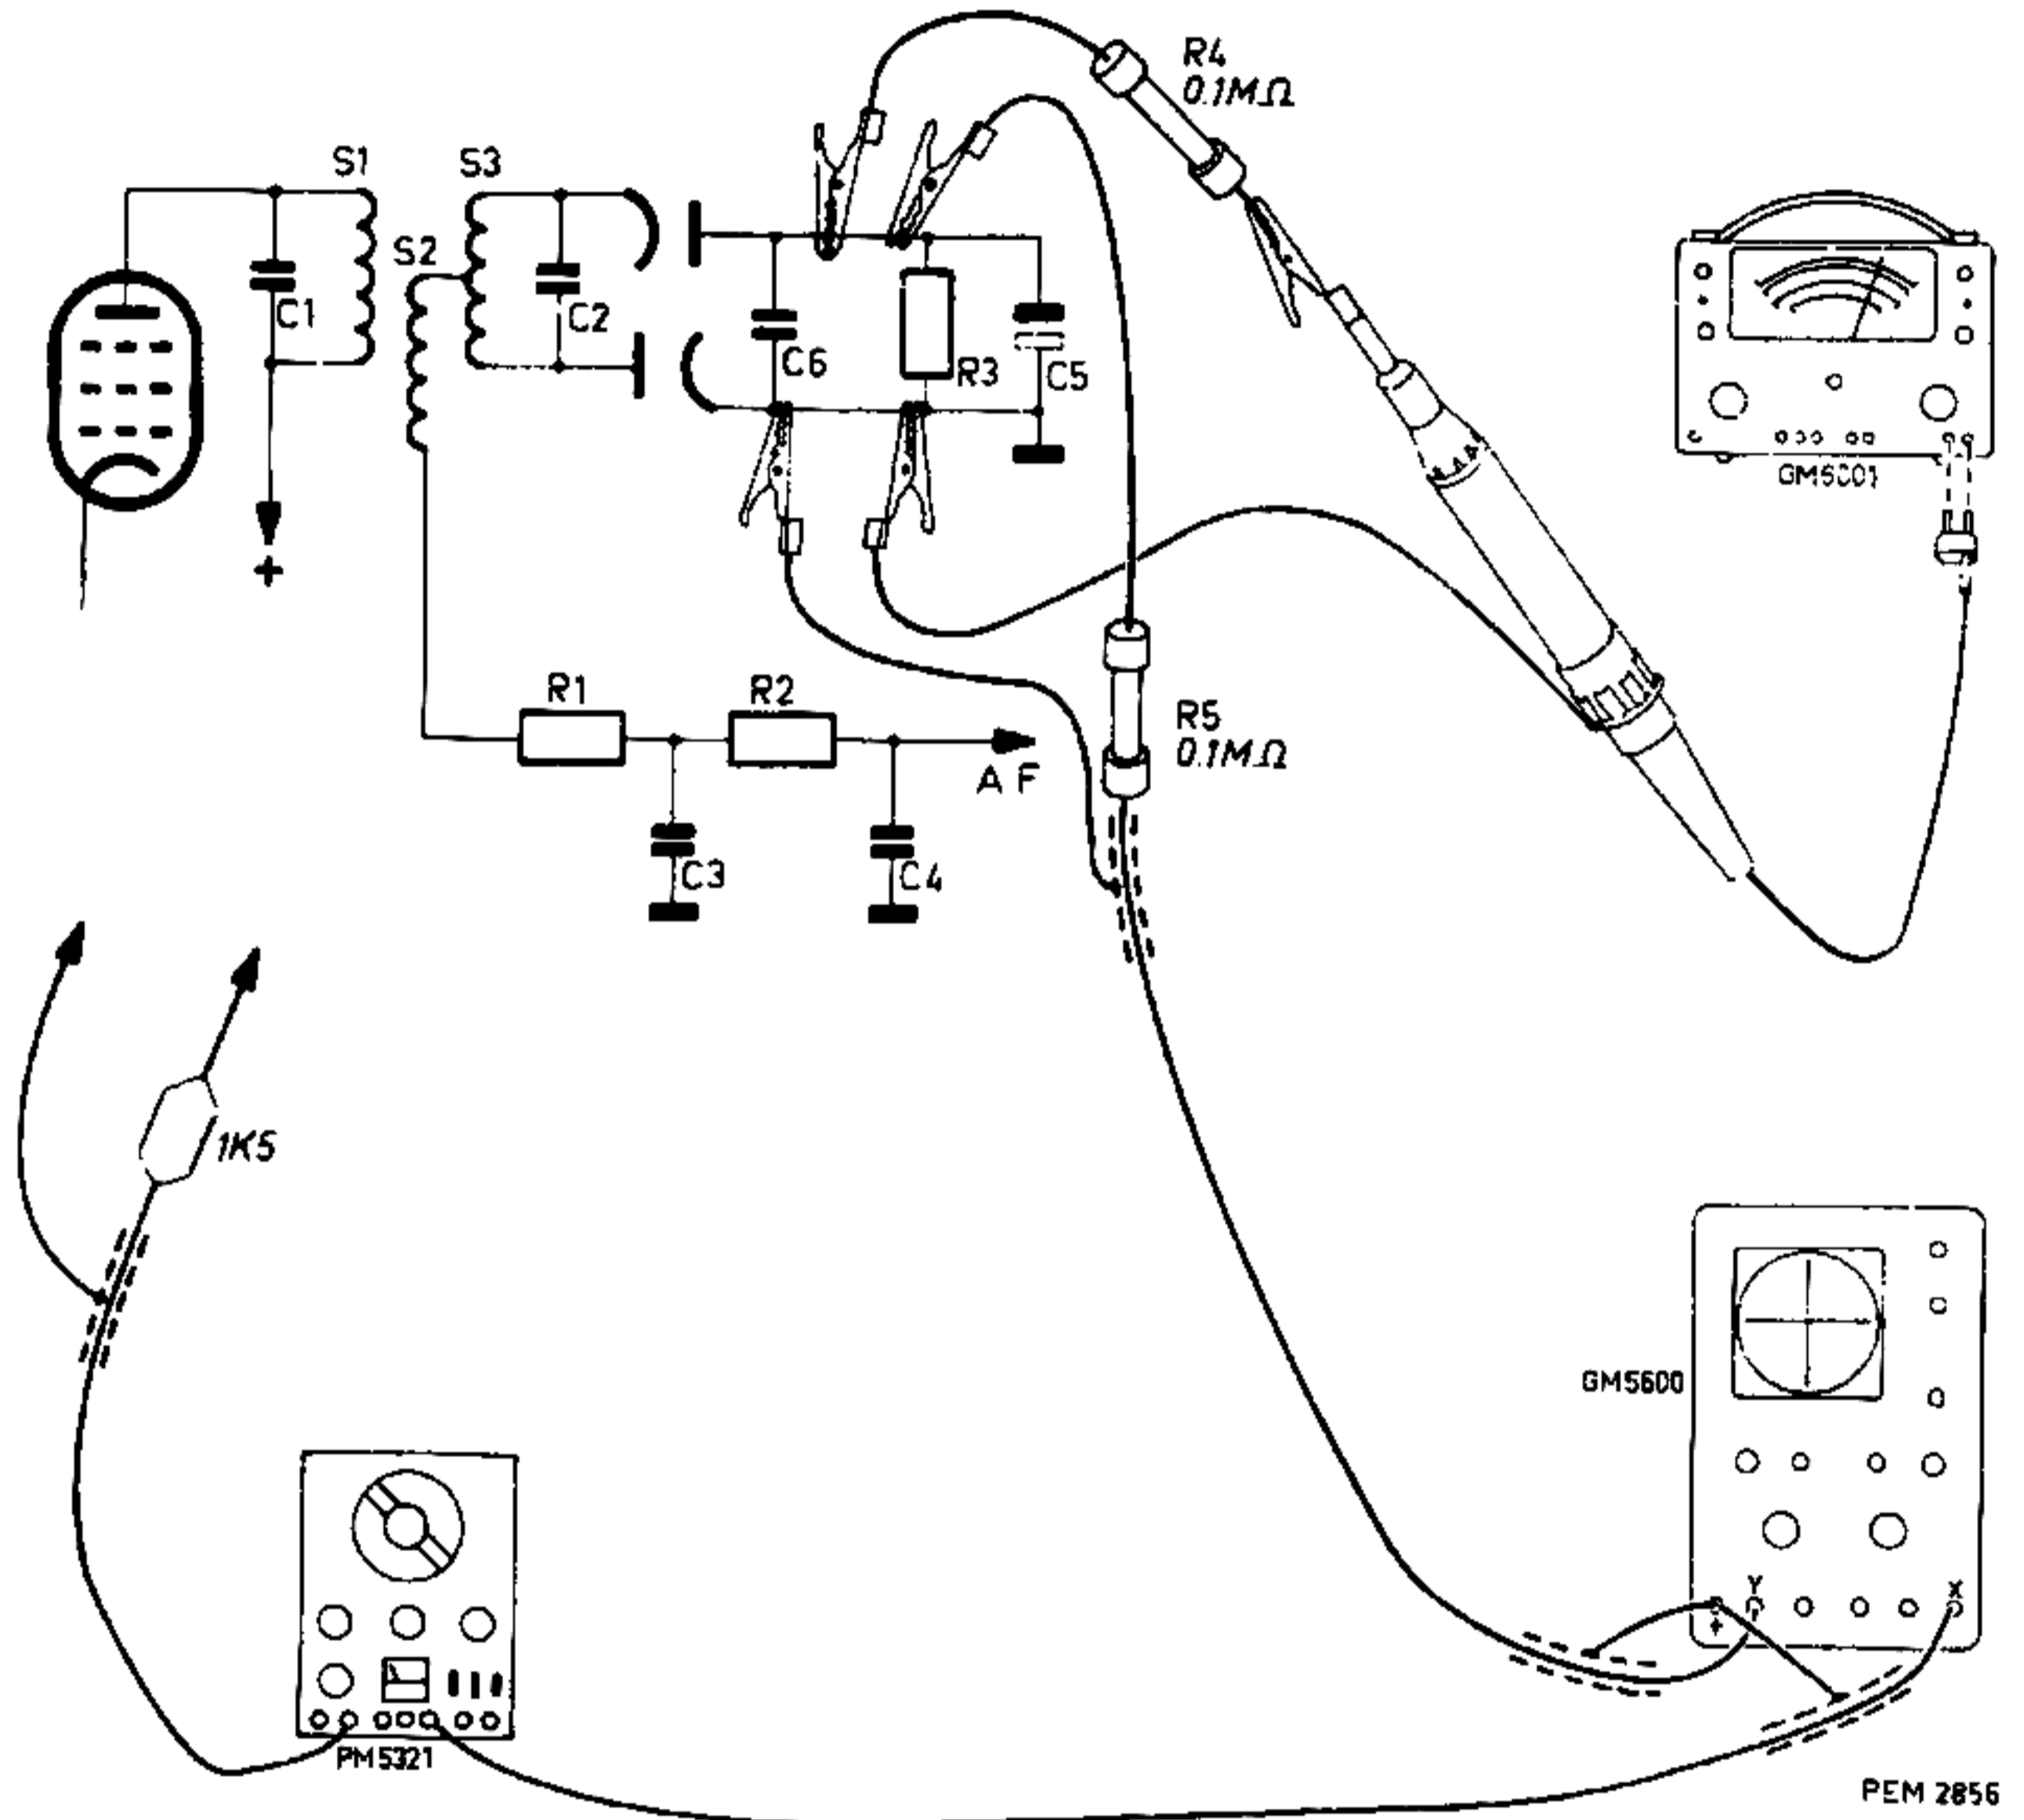

Fig. 19. Dynamic adjustment of an F.M. receiver
b. Connecting the measuring instruments (see Fig. 19)
1. Connect the valve voltmeter across resistor R3 of the detector circuit via a resistor of 0.1 M Ω (R4 in Fig. 19). Adjust the voltmeter to a measuring range of -3 V d.c.
6. Unsolder the electrolytic capacitor in the ratio-detector circuit (C5 in Fig. 19).
9. Now connect again the electrolytic capacitor (C5, Fig. 19). Adjust the core of the secondary circuit of the last I.F. band-pass filter (discriminator) to maximum deflection of the a.c. voltage meter. The deflection of the valve voltmeter must be less than -3 V, so that the output voltage of the generator must be decreased if necessary.
Checking the discriminator curve – Connect the oscilloscope across capacitor C4 (Fig. 19). The centre of the straight part of the displayed curve must be on the line EF (Fig. 23). If the curve has an asymmetrical or non-linear shape, repeat points 6...9).
10. Unsolder the electrolytic capacitor (C5 in Fig. 19). Adjust the cores of the other band-pass filters to maximum height of the curve in the sequence indicated in the trimming table (Fig. 22, curve I). In doing so, the band-pass curve must always be symmetrical with respect to the middle of the screen (Fig. 22, line EF, curve II).
11. *Checking the A.M. suppression* – Resolder the electrolytic capacitor (C5, Fig. 19). Set the A.M. switch (SK3) of the PM 5321 to "INT.". The wave-form on the oscilloscope will now show a sinusoidal modulation, the amplitude of which varies from zero (in the middle of the discriminator curve) to a certain value (at the end of the straight part). The A.M. suppression is sufficient, if the latter amplitude is smaller than $1/10$ of the height of the curve.
1. Connect the valve voltmeter across resistor R3 of the discriminator circuit, via a resistor of $0.1\text{ M}\Omega$ (R4 in Fig. 19). Adjust the measuring range of the valve voltmeter to -3 V d.c.